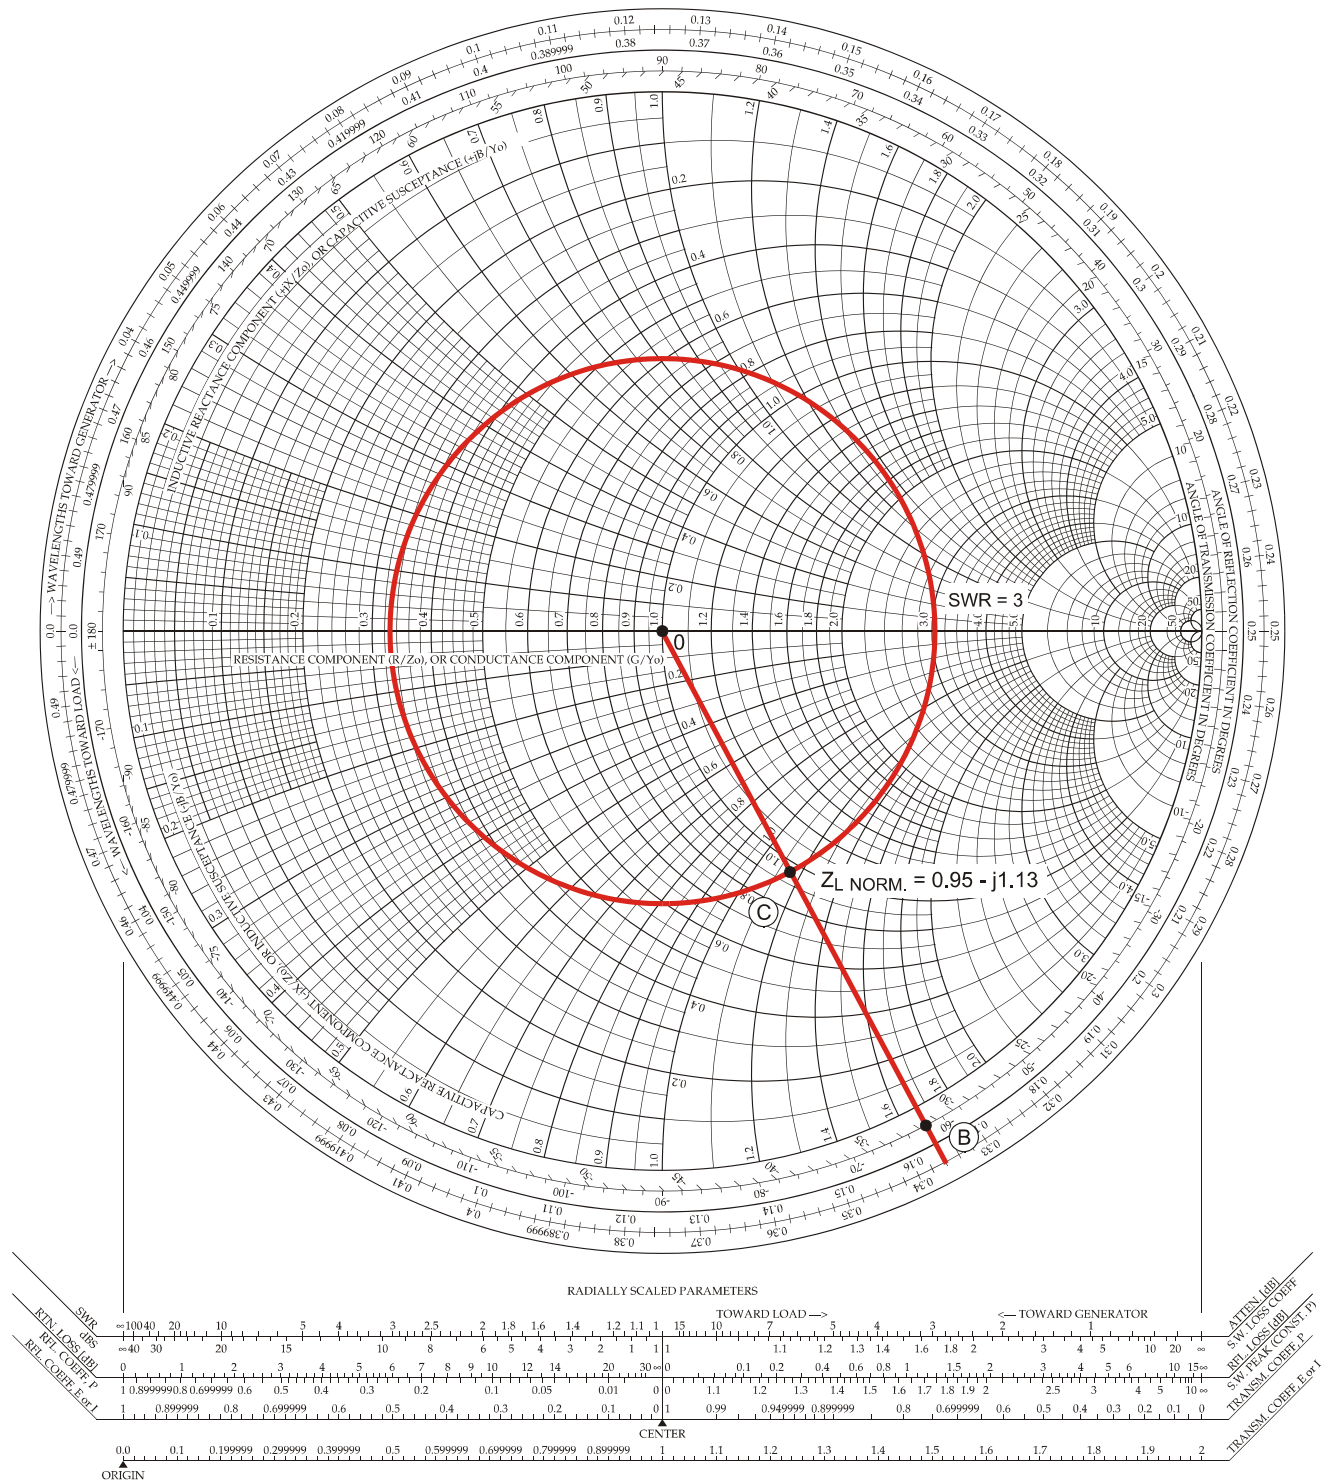

Figure 11-15. Determining the load impedance with a slotted line (short-circuit minima-shift method).
1. Draw the SWR circle on a Smith Chart (Figure 11-15).
3. On the Smith Chart of Figure 11-15, draw a vector from the center point of the chart to the mark on the scale "ANGLE OF REFLECTION COEFFICIENT IN DEGREES" that corresponds to the angle  $-62^\circ$  (point B).